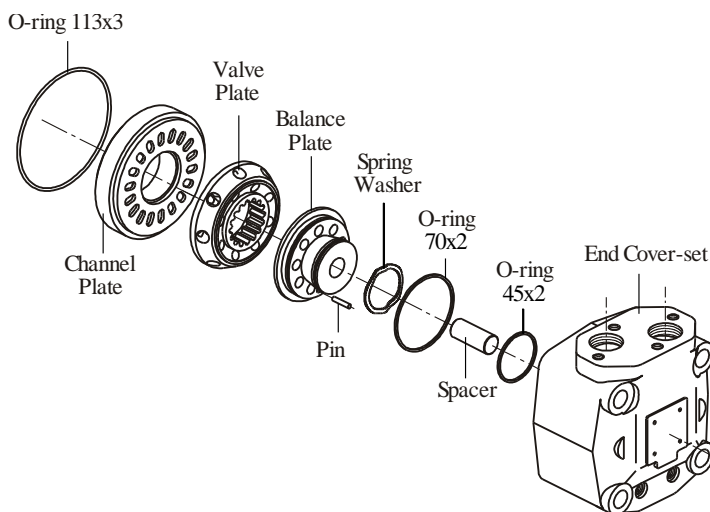

Fig.6
13. Turn the end cover with the hole conversely on a clean soft surface. Knock several times using a plastic hammer on the rear side. Set in order the fallen parts apart (see Fig.6).
19. Mount the lubricated O-rings 70x2 and 45x2 in the relevant grooves of the balance plate (see Fig.6).